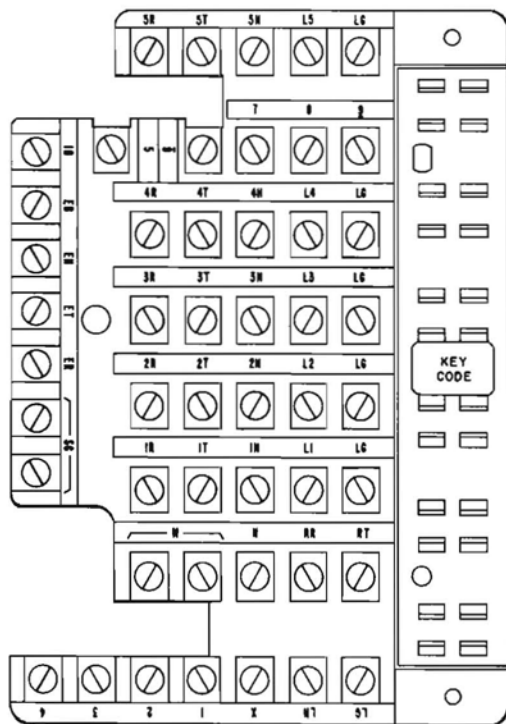

Fig. 2—Terminal Board for the 636A and 589Y Key
**2.01** The 636-type key (Fig. 1) has a terminal board arrangement to accommodate matching cord terminal wafers, so that any line connected to the set can be interchanged readily to appear on any five line pickup keys. See Fig. 2 and 3 for terminal designations on the 636A and 636B, respectively.